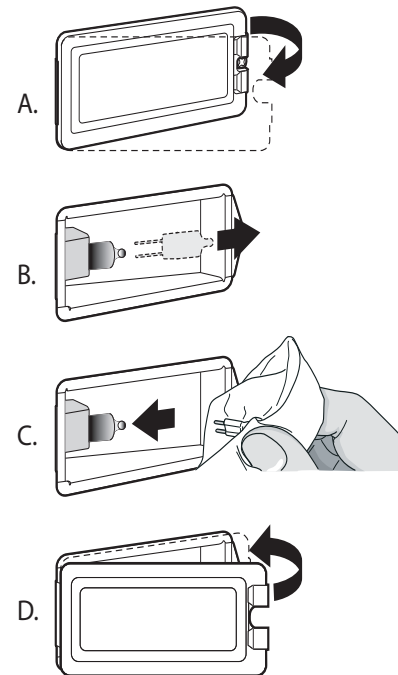

Figure 40: Bulb Replacement
3. Slide the tip of a flat blade screw driver between the fixing clip and the lamp housing (*Figure 40, A*).
6. Remove the bulb by grasping and sliding the bulb straight back until the two prongs have cleared the ceramic holder (*Figure 40, B*).
8. Press down to seat the bulb (*Figure 40, C*).
9. Slide the protective lens into the holder clip and push the other end until the fixing clip snaps back into the housing (*Figure 40, D*).